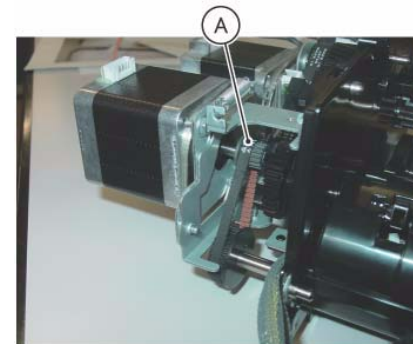

Figure 9 Install the Belt
2. Install the Belt (A) to the Pulley of the DADF Reg Motor. (Figure 9)